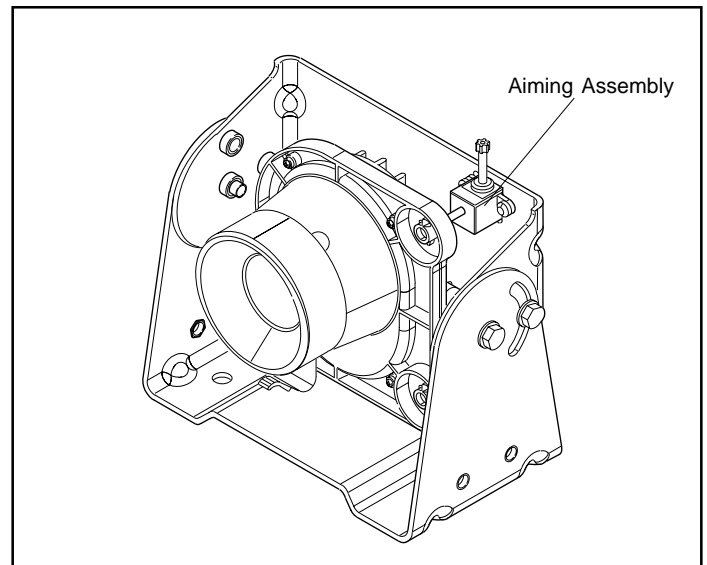

Figure 18 Fully Assembled Camera
1. Position the camera onto the factory-installed aiming assemblies. Refer to Figure 18.